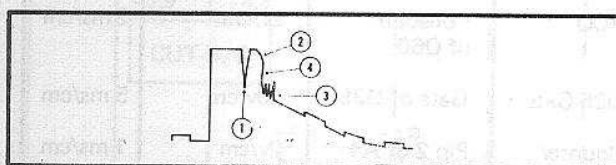

Figure 4-11. TP3 - RING COUNTER MARGINAL WAVEFORM.
- A marginal waveform is shown in Figure 4-11 and described as follows: